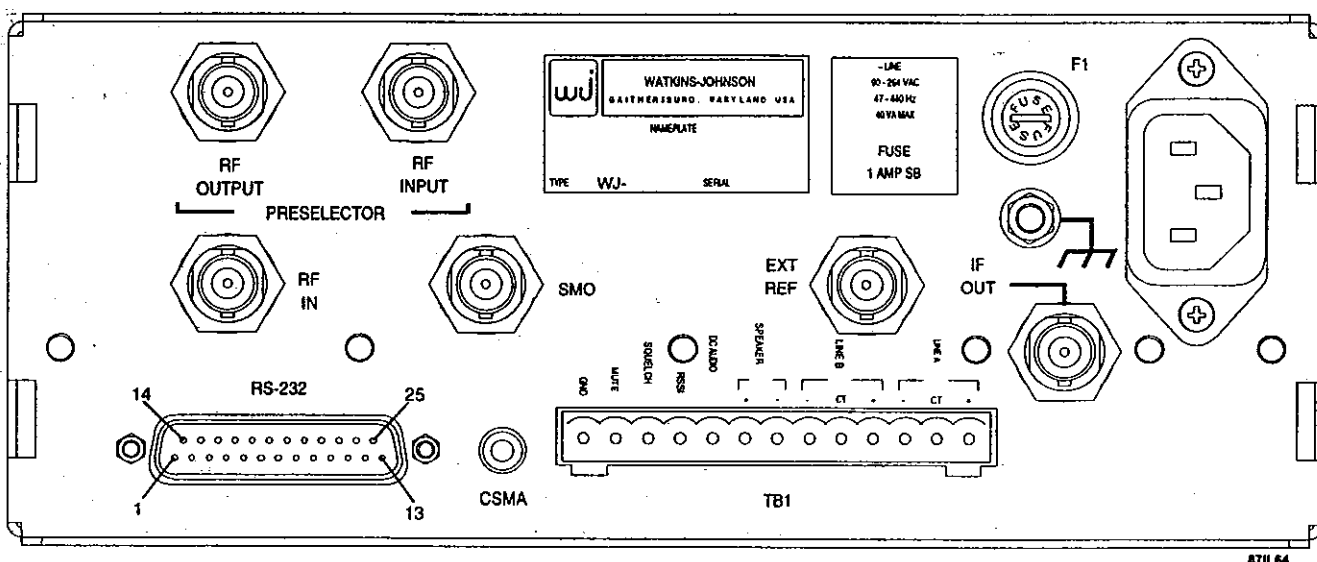

Figure 2-2. WJ-8712P Rear Panel
A 1 amp, slo-blo fuse (F1) is provided and located in a fuse case on the rear panel of the receiver (see Figure 2-2). This type fuse is to be used for operation anywhere in the VAC range.
All external connectors of the WJ-8712P are located on the rear panel, with the exception of the PHONE jack which is located on the front panel. Table 2-1 lists these connectors and provides a brief description and the reference designation for each. Figure 2-2 shows the location of the rear panel connectors. The following paragraphs provide details of the signals resident at the connectors.
2.2.3.10 **Ground Stud** - A #10 threaded grounding stud is located on the rear panel for grounding the receiver in an equipment frame. See **Figure 2-2** for the location of this grounding stud.